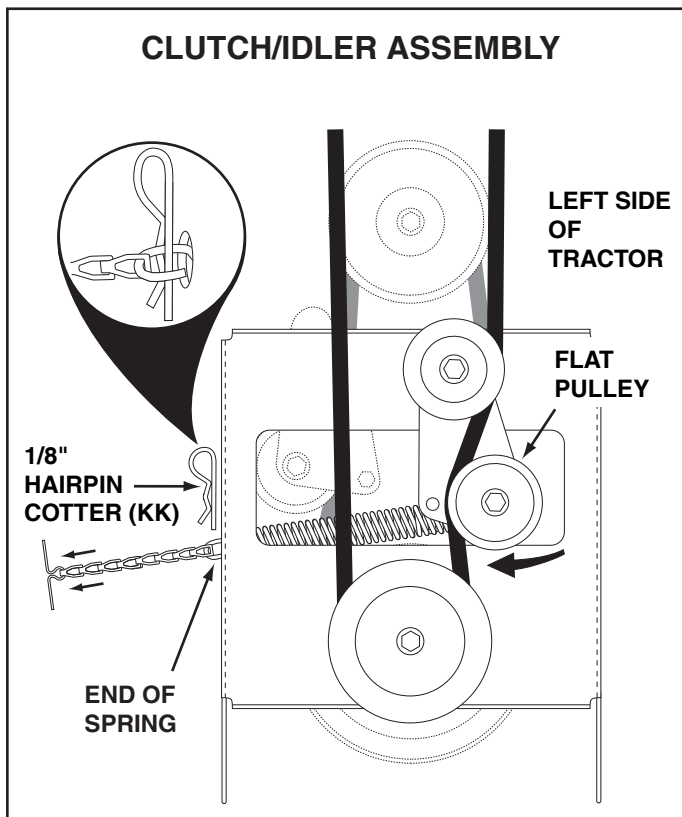

FIGURE 57
STEP 59: (SEE FIGURE 57)
- Pull the tensioning chain until the end of the spring is pulled through the hole in the side of the Clutch/Idler assembly. Install a 1/8" hairpin cotter (KK) through the end of the spring, securing it on the outside of the Clutch/Idler assembly.